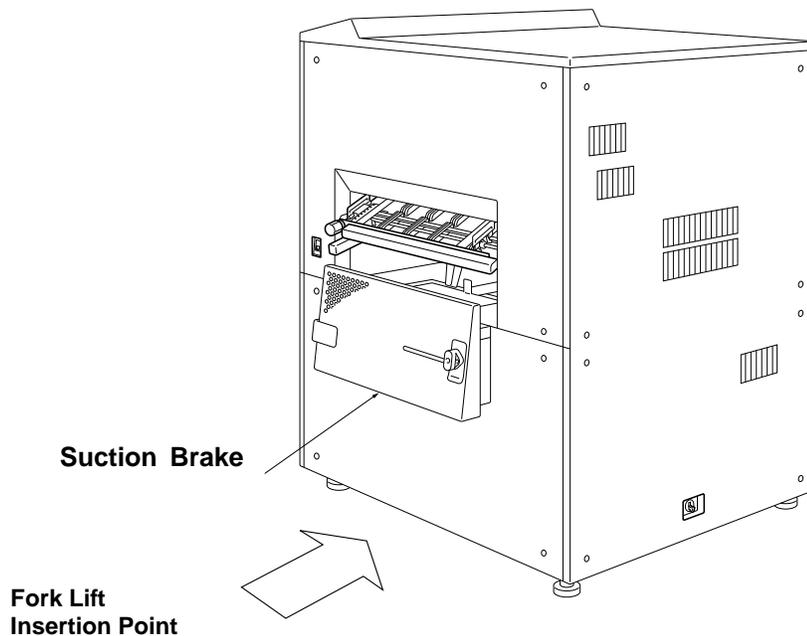

Figure 3-1
5. If the printer is to be moved with a “fork lift,” use only the fork insertion position shown in Figure 3-1.